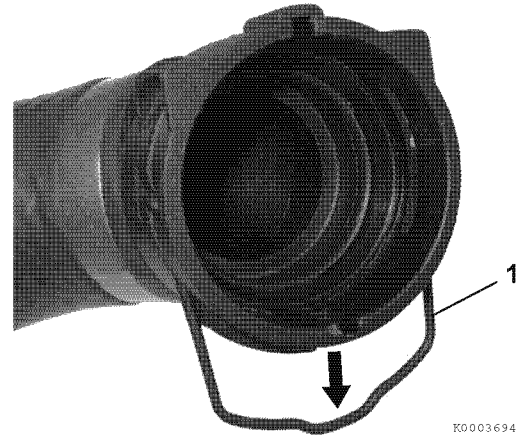

Figure 7-9
1. Pry metal clip (1, **Figure 7-9**) until it clicks into position shown.